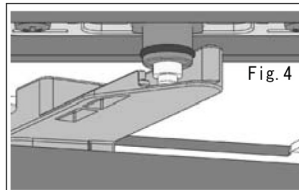

Fig. 4
- **Horizontal adjustment** : Extend the arm with the door open and then close slowly until the shaft is in contact with the arm (Fig. 4). Adjust horizontally until the shaft is at the center of the arm groove.